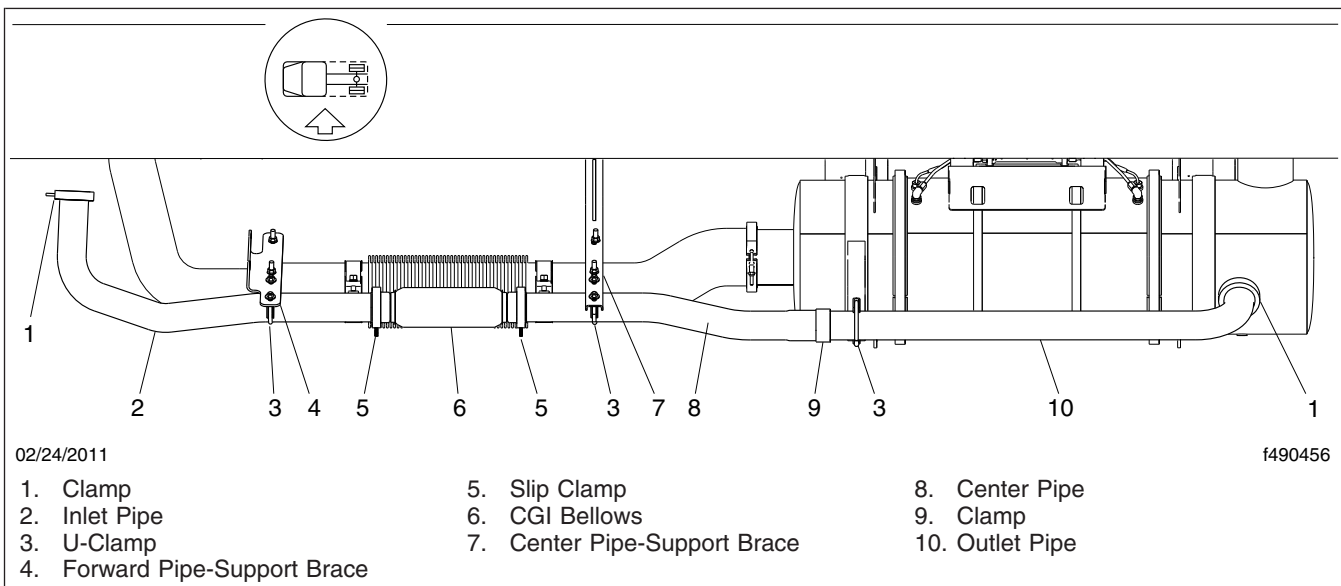

Fig. 5, CAT EPA07 Exhaust Installation with CGI Bellows
- On vehicles with CAT engines, inspect the CGI bellows and piping for evidence of damage or leakage. See Fig. 5. If the bellows is damaged